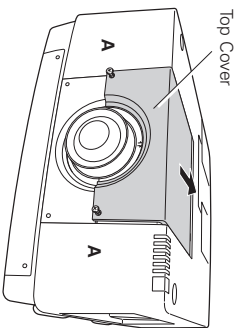

Fig. 10
11 Replace and fix the Top Cover with two (2) screws **A**. (See Fig. 10)